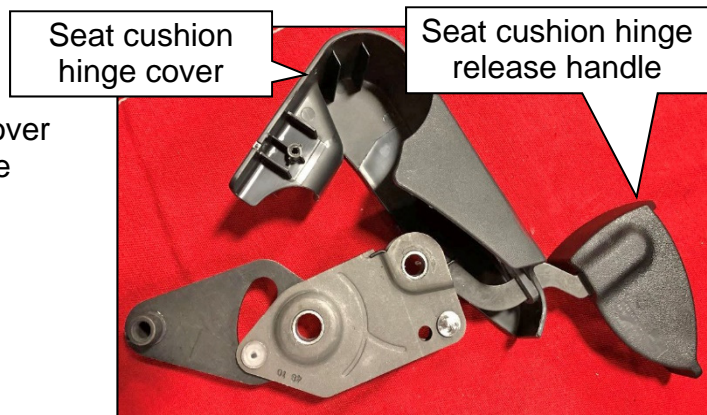

Figure 8
9. Transfer the seat cushion hinge cover and the seat cushion hinge release handle onto the new seat cushion hinge assembly (Figure 8).